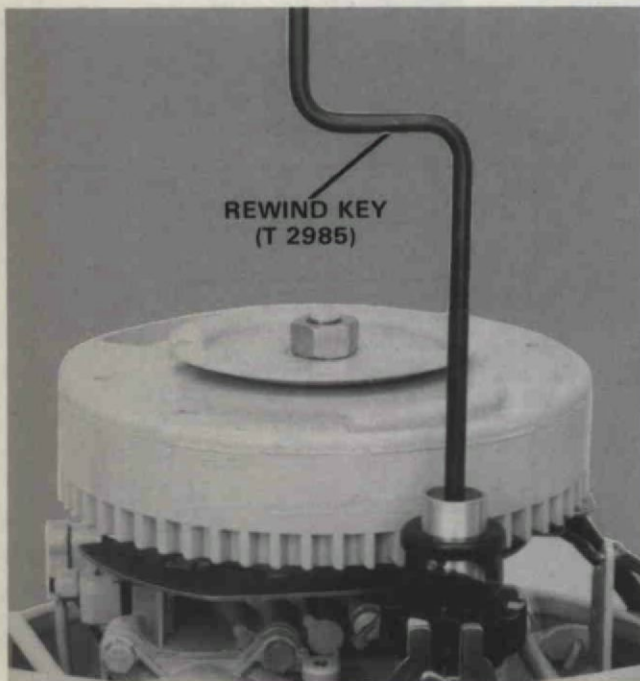

Figure 3. Installing Rewind Key.
3. Install rewind key in place of screw just removed. Special Tool No. T 2985. Figure 3. Hold pin and securely tighten rewind tool.